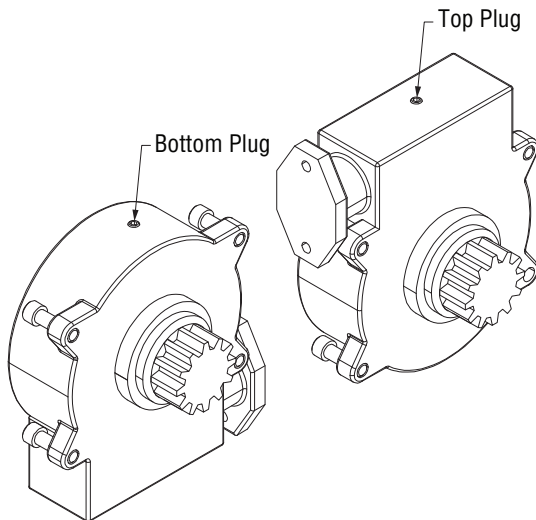

Figure 5-33, Gearbox Grease Plugs (YGC-49 shown)
2. If the gearbox has been serviced, remove the top and bottom plugs from the gearbox. Completely fill the gearbox with Mobilux EP1 or equivalent grease. (Figure 5-33)